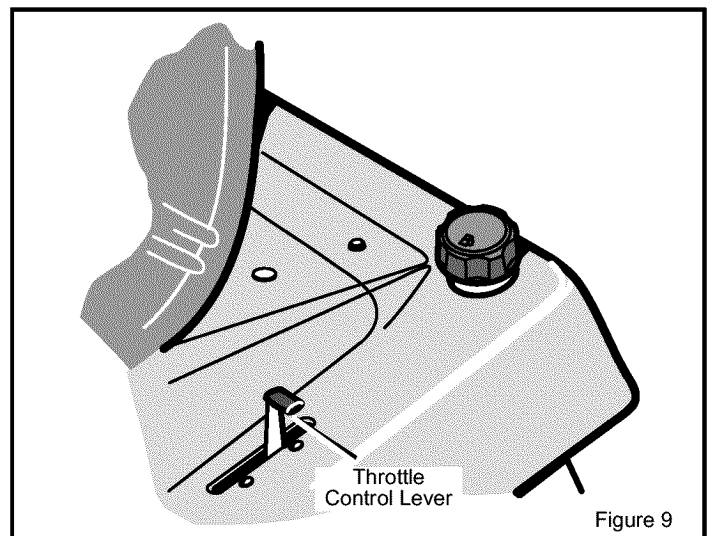

Figure 9
4. Move the throttle control to the FAST position (see Figure 9).
2. Move the throttle control lever to the SLOW position (see Figure 9).
5. Move the throttle control to the FAST position (see Figure 9).